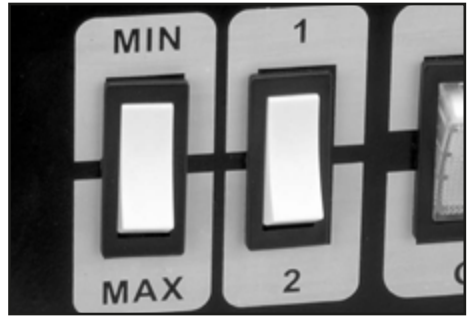

FIG.6
9.2 WELDING CURRENT REGULATION SWITCHES - FIG. 6